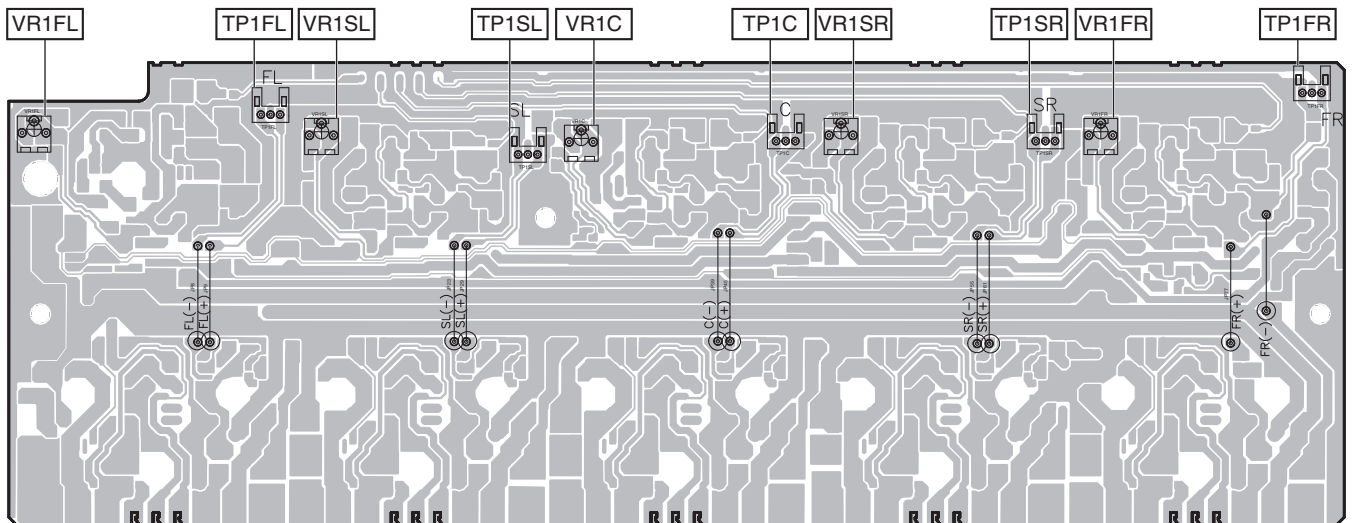

Fig.2
• Adjustment points and measurement points.... see fig.2.